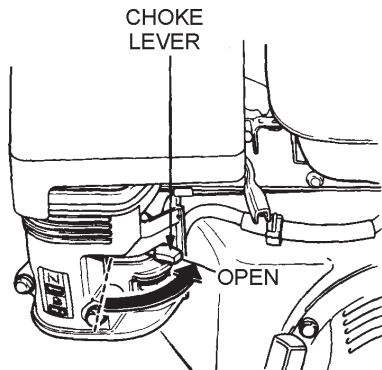

Figure 14. Engine Choke Lever (Open)
3. Place the *choke lever* (Figure 14) in the "OPEN" position if starting a **cold** engine.